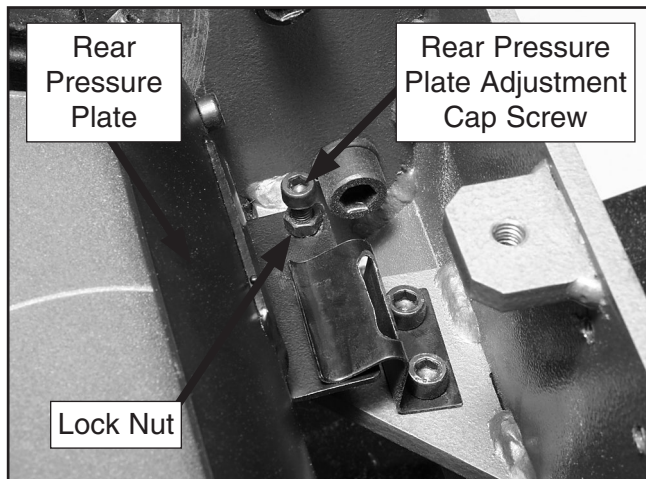

Figure 46. Rear pressure plate adjustments.
2. Loosen the lock nuts and tighten the cap screws on both ends of the rear pressure plate shown in **Figure 46** to raise the pressure plate, or loosen the cap screw to lower the pressure plate.